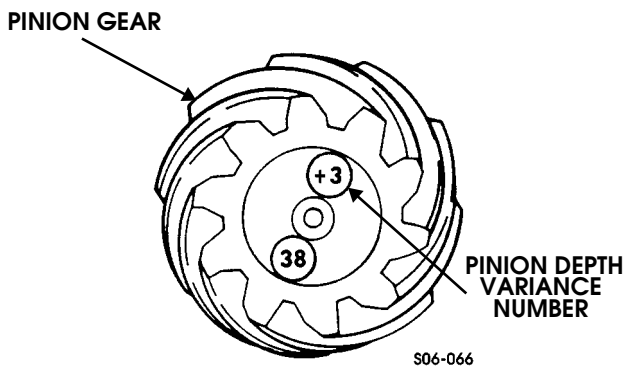

Figure 9-79: Pinion Depth Variance Number Location
2. Check pinion depth variance number marked on old and new pinion gears and record (Figure 9-79). Refer to Table 4.